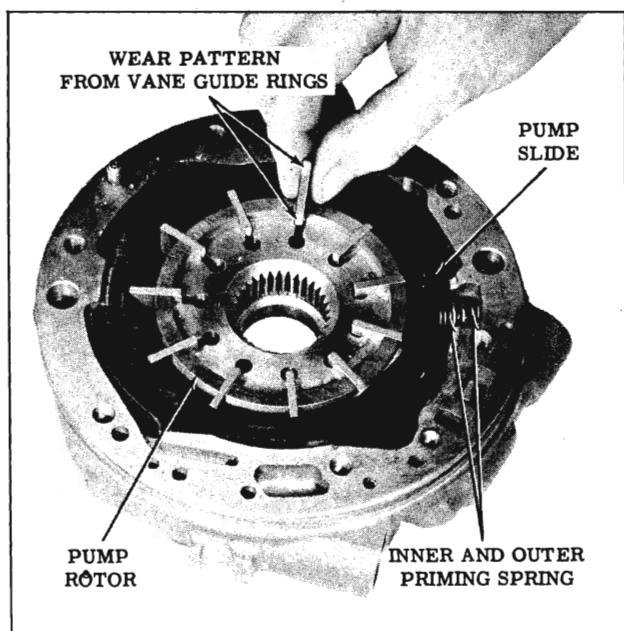

Fig. 3-281 Installing Pump Valves
4. Install the inner and outer priming springs and slide. (Slide will only fit one way). (Fig. 3-281)
7. Install eleven vanes so the vane ring wear pattern on the edge of the vanes faces towards the vane rings. (Fig. 3-281)